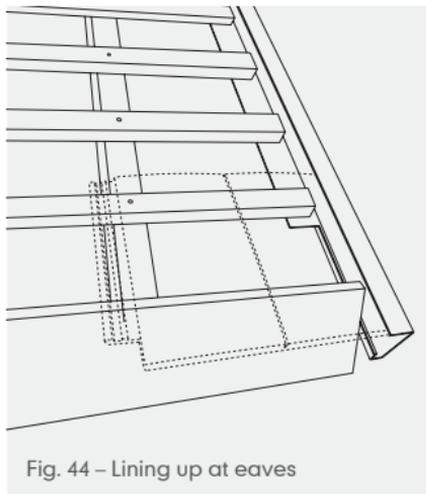

Fig. 44 – Lining up at eaves
- 2 Square cut the ends of the verge extrusion to the desired length. A connector unit is available to join lengths of extrusion. At the eaves, cut away a length of horizontal flange to accommodate the tilting fillet or support tray (Fig. 44).